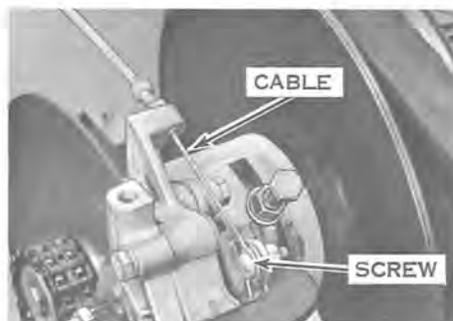

Figure 9-17. (1965)
- b. Unhook brake spring. Release brake adjustment screw. Disconnect brake control cable (see Figures 9-17 and 9-18).